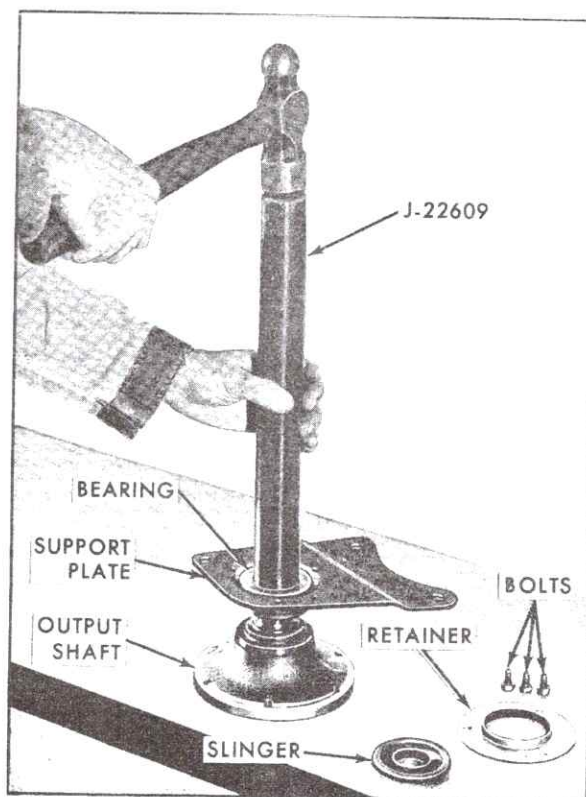

Fig. 3-62 Installing Right Hand Output Shaft Support and Bearing
1. Position output shaft on flange end on a work bench, Fig. 3-62.
3. Lubricate bearing and install, using a hammer and Bearing Installer, J-22609, Fig. 3-62.